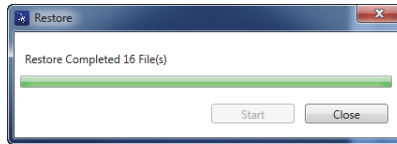

Figure 7-31 The Restore dialog box (complete)
5. When the restore process has been completed, click **Close** (see Figure 7-31 on page 213).